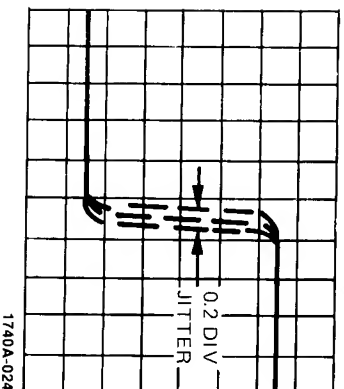

Figure 18. Pulse Jitter Measurement
6. Measure the horizontal displacement on the center horizontal graticule line as shown in figure 18. This displacement times the DLY'D TIME/DIV setting is the pulse jitter in time.
**Example:** Assume the DLY'D TIME/DIV setting is 0.1 mSEC and the horizontal displacement is 0.2 DIV (see figure 18).